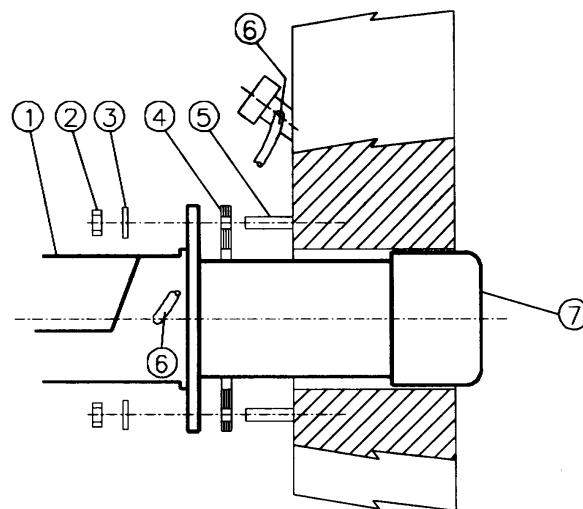

Fig. 16
- 4 fix the burner to the stud bolts, by means of the fixing nuts, according to Fig. 16.